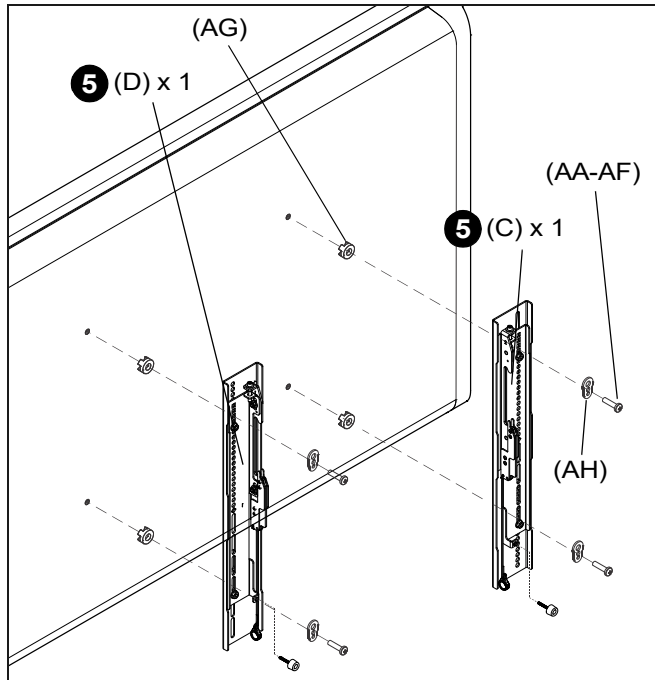

Figure 22
11. Align the center of the interface brackets (C/D) with center of screen. (See Figure 22)
12. Select correct screws (AA-AF), spacers (AG, if necessary) and universal washers (AH) from the hardware box and attach two interfaces (C/D) to the back of each screen. (See Figure 22)